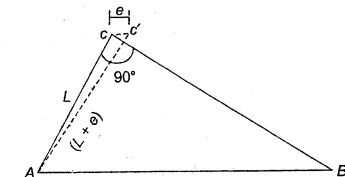

Fig. 3.7 Well conditioned triangle
- In Fig. 3.7, the accuracy of plotting the point C will be maximum when the arcs from the base line intersect at right angles. Let there be an error of 'e' in the measurement of one side AC so that the actual point C will be plotted as C'. The displacement of point C' from C will depend on $\angle ACB$. If the $\angle ACB$ is 90° , then the displacement CC' will be very nearly equal to 'e'. The location point C will be quite inaccurate in case $\angle ACB$ is less than 30° , since in that case, the displacement CC' will be equal to around '2e'.